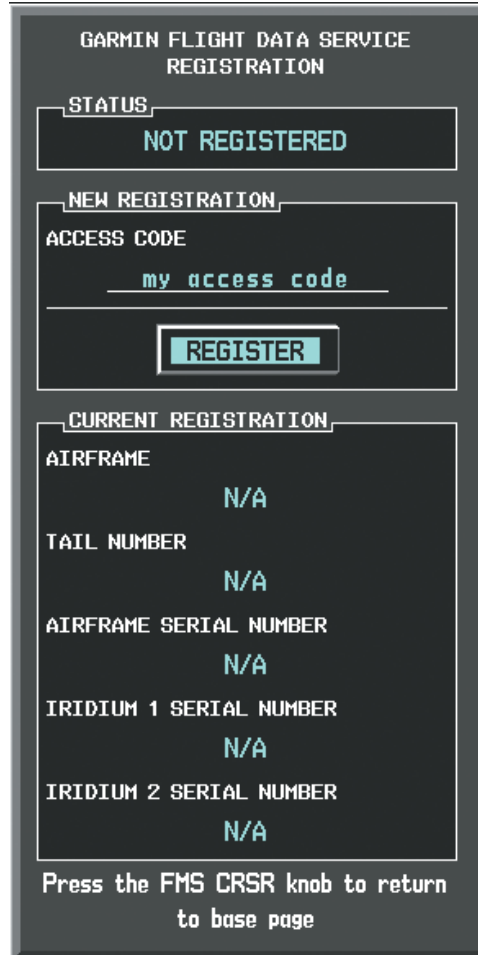

Figure 8-75 Enter Access Code
- 8) Press the **ENT** Key. The Garmin Flight Data Service Registration window is now displayed as shown in Figure 8-75.
- 10) Press the **ENT** Key. REGISTER will now be highlighted as in Figure 8-75.